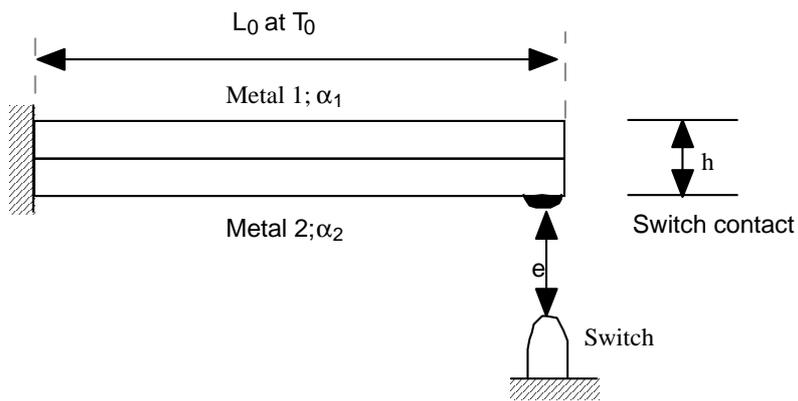

Figure 7.14. Principle of using bimetallic strip
7. We suppose that the length  $L(T)$  of the bimetallic strip at the temperature  $T$ , is the average of the two strip lengths. The switch controlling the thermostat will be placed at a distance  $e$  under the extremity of the strip supposed straight at the temperature  $T_0$  (figure 7.14).